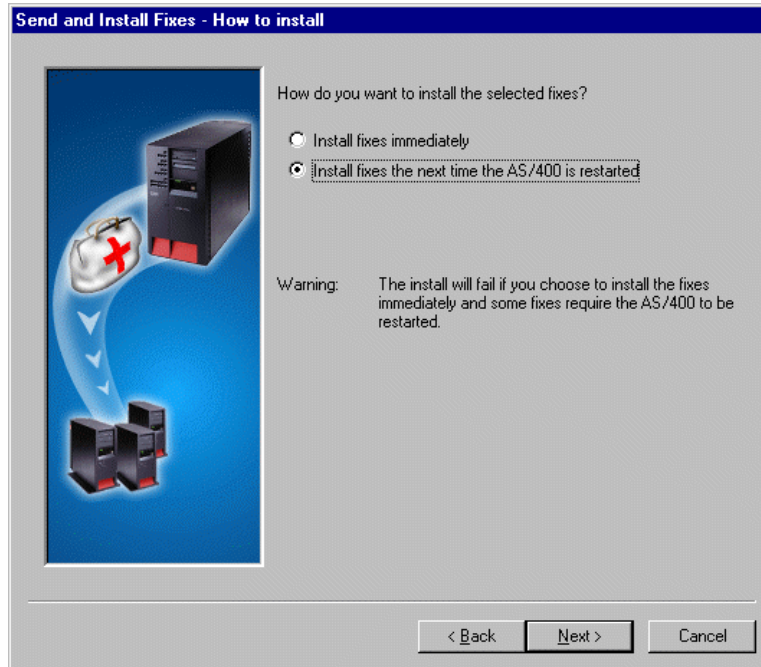

Figure 89. Send and Install Fixes: How to Install window
7. Click **OK** to return again to the Send and Install Fixes – Where to Send and Install window. Click **Next** to move to the Send and Install Fixes – How to Install window, which is shown in Figure 89 on page 112.